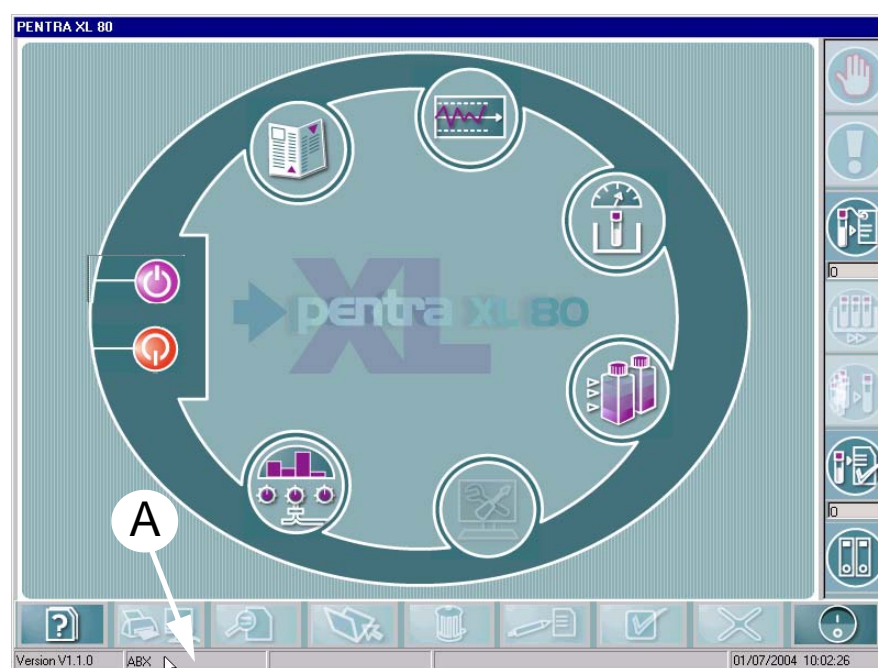

Fig. 5-32 User list
- Double-click the second box (A) of the Footer (see Fig. 5-32 User list, page 5-41).